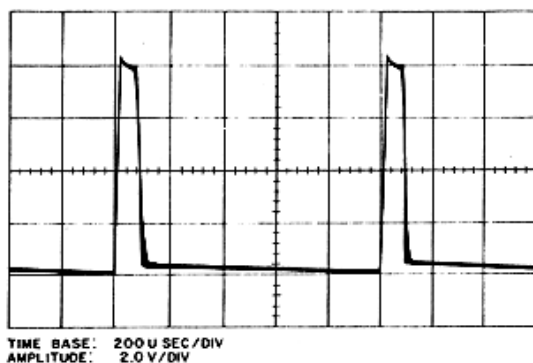

Figure 6.20 – Q13, Collector Waveform
n. Switch to CW mode and reconnect oscilloscope to collector of 1 kHz multivibrator stage Q13 (or bottom of R43). The observed waveform should resemble the one shown in figure 6.20.
e. Connect oscilloscope to the junction of R42 and the collector of Q13. Set R38 to the center of the range which results in a waveform with time between pulses equal to and amplitude close to those shown in figure 6.20.